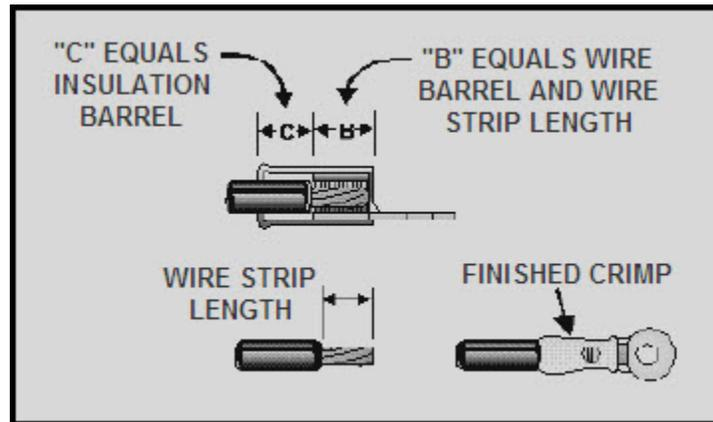

Figure 2-22 Proper insertion of stripped wire in insulation terminal lug for crimping
5. Insert the stripped wire into the terminal lug barrel until the wire insulation butts flush against the near end of the wire barrel. (See figure 2-22.)